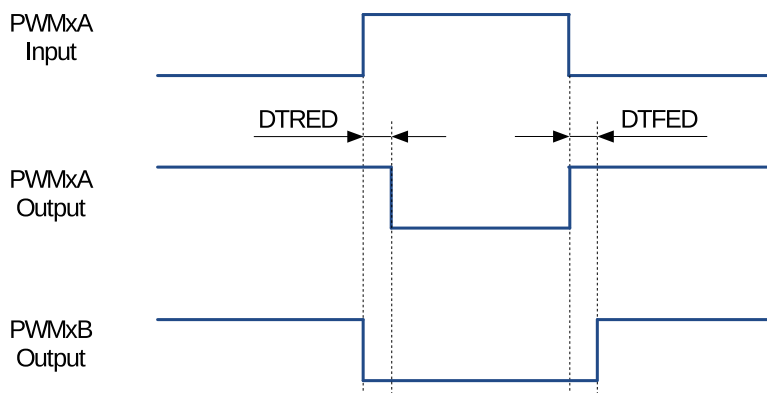

Figure 117: Active Low (AL) Dead Time Waveforms
| 5 | Active Low (AL), see Figure 117 | 0 | 0 | 1 | 1 |